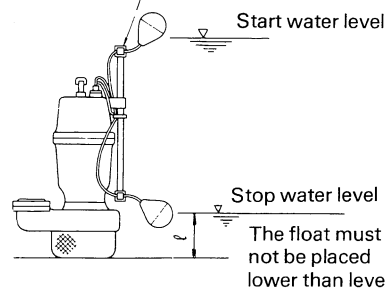

Fig. 3
- (8) For automatic pumps (DSA, DNA) install the floats as shown in **Fig. 3**. The pump may not start if a float switch touches the wall of the water tank or the piping. Install the floats so that this will not happen.